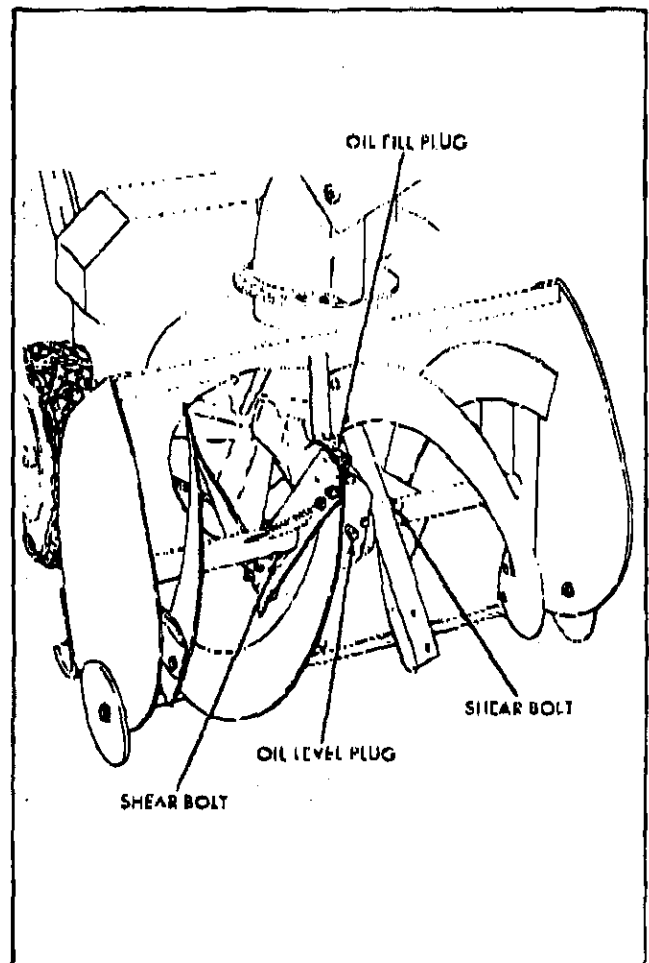

Figure 10
3. Check oil level in gear case by removing oil level plug (figure 10). Oil should be visible in hole. If not, remove oil fill plug (figure 10) and add SEARS SAE 30 engine oil until it starts to run out oil level hole. Replace both plugs and tighten securely.